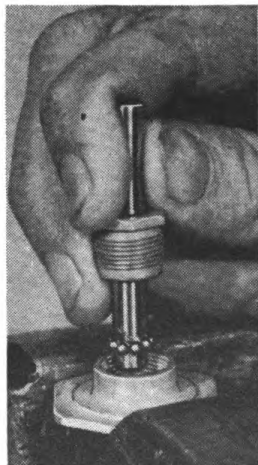

Figure 230
(2) Inspect piston to see if scored or worn. Place the retainer shell in a vise (See Figure 230) and unscrew the piston retainer nut. Note that the piston is held in place by eight small steel balls. When replacing the piston put a little grease on the balls so that they will stick to the piston and facilitate reassembly.